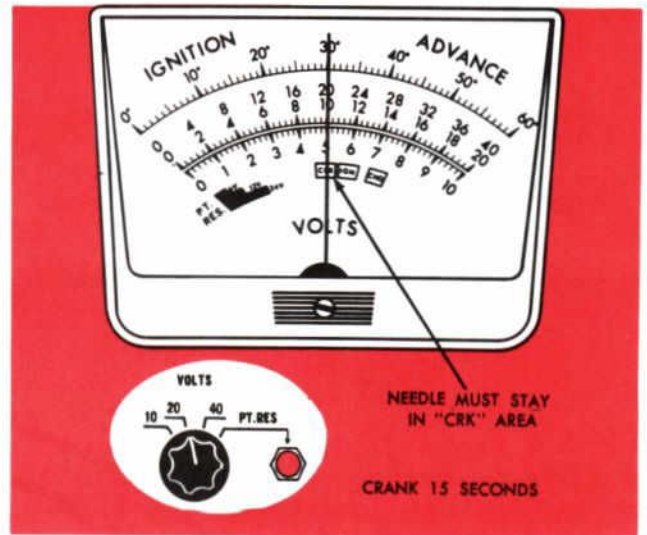

Figure 6—Cranking Circuit Test
4. Crank the engine for 15 seconds and watch the voltmeter. The needle should stay in the yellow CRK area (Figure 6) and not indicate less than 9.6 volts.